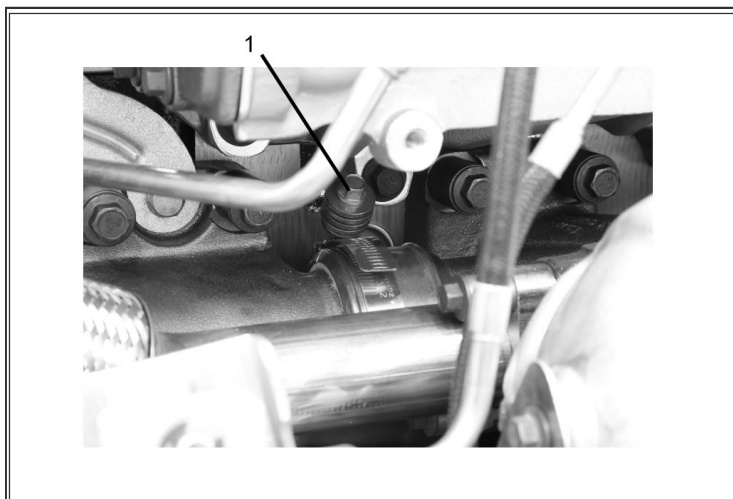

Figure 12: Rear Exhaust Manifold Ring Seal
Ring seal clamp alignment must match the clamp alignment in Figure 12 to prevent problems when installing the outboard EGR inlet tube.
26. Install #1 ring seal clamp (**Figure 12**, Item 1) center of shield.